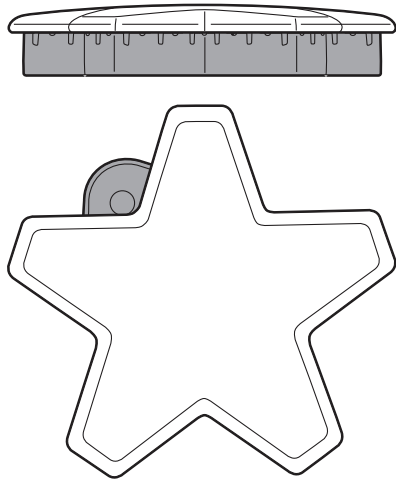
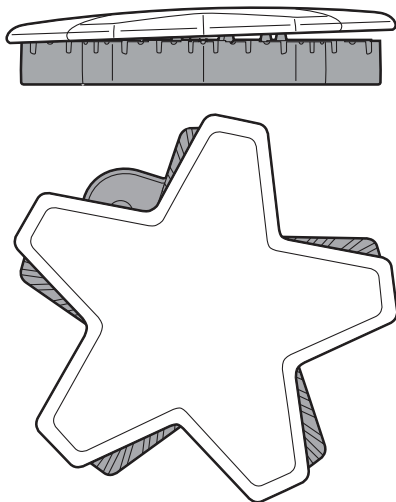

Figure 13: Correct Burner Cap Placement
Figure 14: Incorrect Burner Cap Placement
- Check each burner to make sure there is no gap between the burner cap and burner base. See *Figure 13 and Figure 14: Correct and Incorrect Burner Cap Placement* to see examples of correct and incorrect placements of the burner cap.
- You may gently try to move the burner caps from side to side to check if the caps are properly placed on the burner bases. When properly placed, each burner cap will rest flat on top of its burner base, and completely cover the star-shape of the burner base when viewed from the top as shown in *Figure 13: "Correct Burner Cap Placement"*.